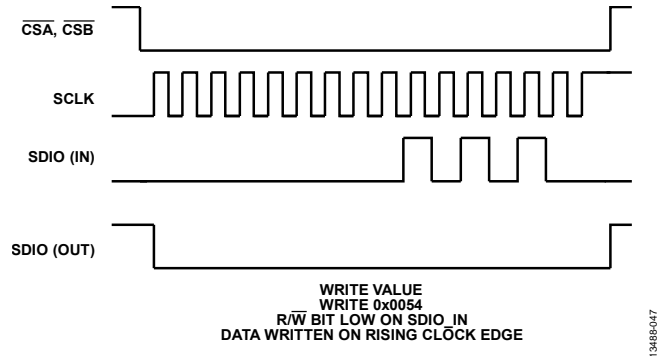
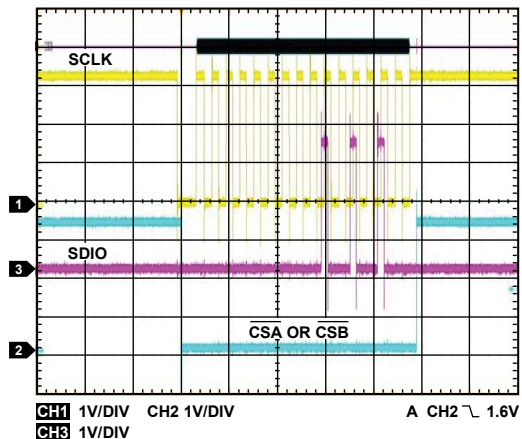
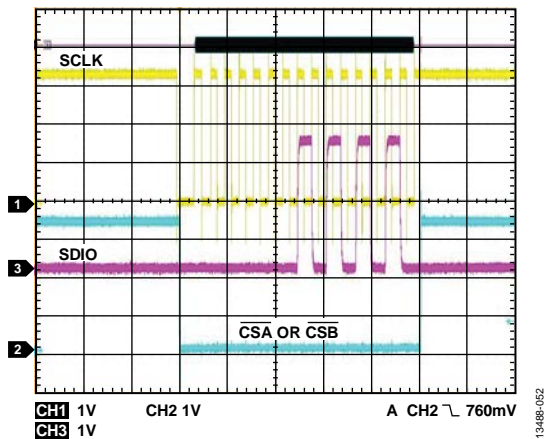

Figure 54. Write Gain Control Word
Figure 57. Write Gain Control Value, 0x0054
Figure 59. Read Back Value, 0x0154
The ADL5205 can be read back only in the serial mode, during a read cycle (from $\overline{CSA}/\overline{CSB}$ low to $\overline{CSA}/\overline{CSB}$ high) after the R/W bit is set high in the previous cycle. During the read cycle, data changes at each rising edge of SCLK, and can be latched using the falling edge of SCLK. There is no continual read operation. A logic high (1) must be written into the R/W bit to enable the subsequent read cycle. The sequence for reading back is shown in Figure 54 to Figure 57, showing the operation of the input and output functions of the SDIO pin. The actual waveforms during the readback process are shown in Figure 57 to Figure 59. SDIO is enabled as an output only during the read cycle in Figure 57.